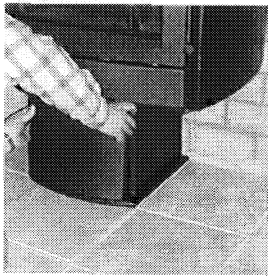

Fig 7
- In the same way, hook the side plates and the front plate of the base onto the heater.(fig 7,8)